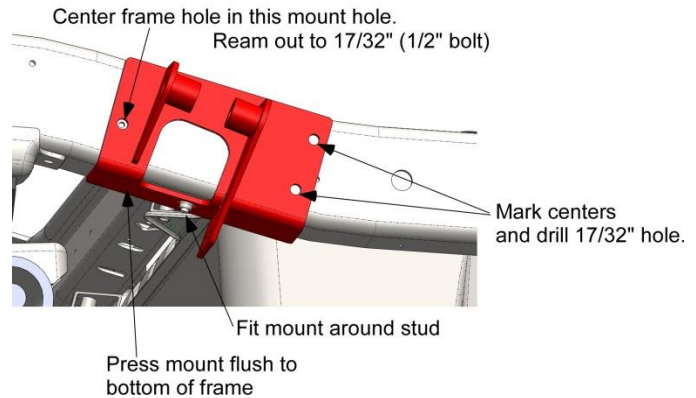

Figure 11. Upper Strut Mount Drilling (Left Hand Shown).
14. Locate the Left Hand Upper Strut Mount and place against frame as shown in Figure 11, fitting around the stud below the frame/cross-member connection. Center frame hole in forward hole and hold flush to bottom of frame.